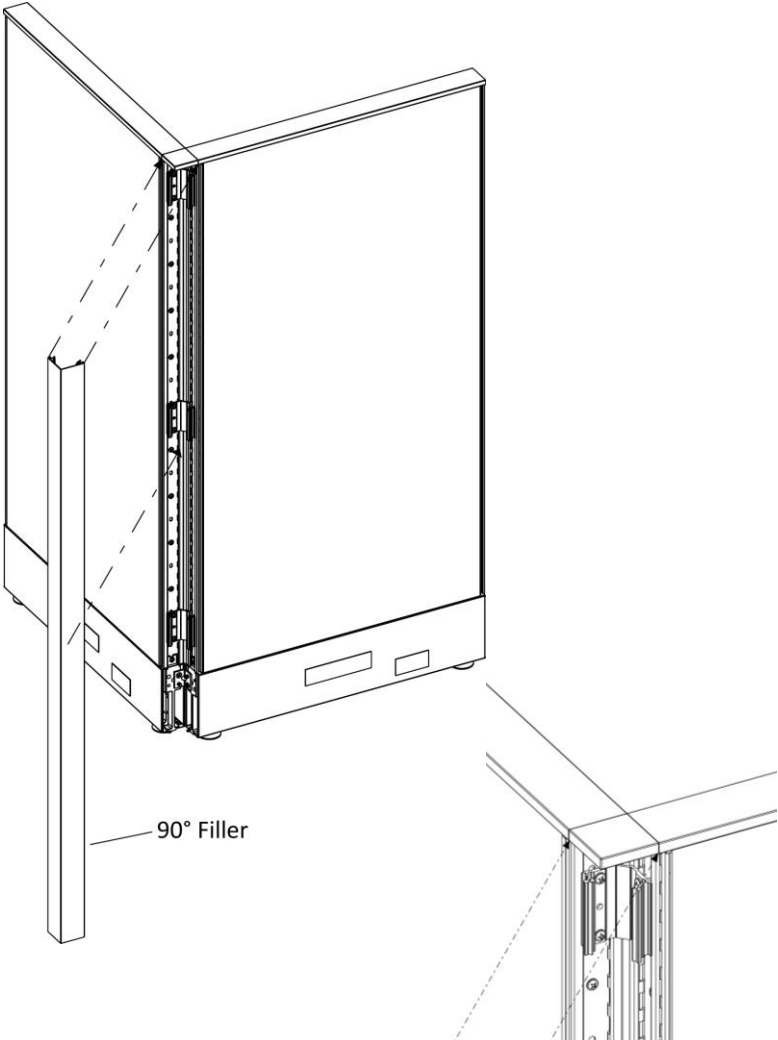

Figure 1
- 1. Position the 90-degree filler, flush with the bottom of the top cap, parallel to the vertical edge, and press the 90-degree filler to snap on connectors, (Figure 1).